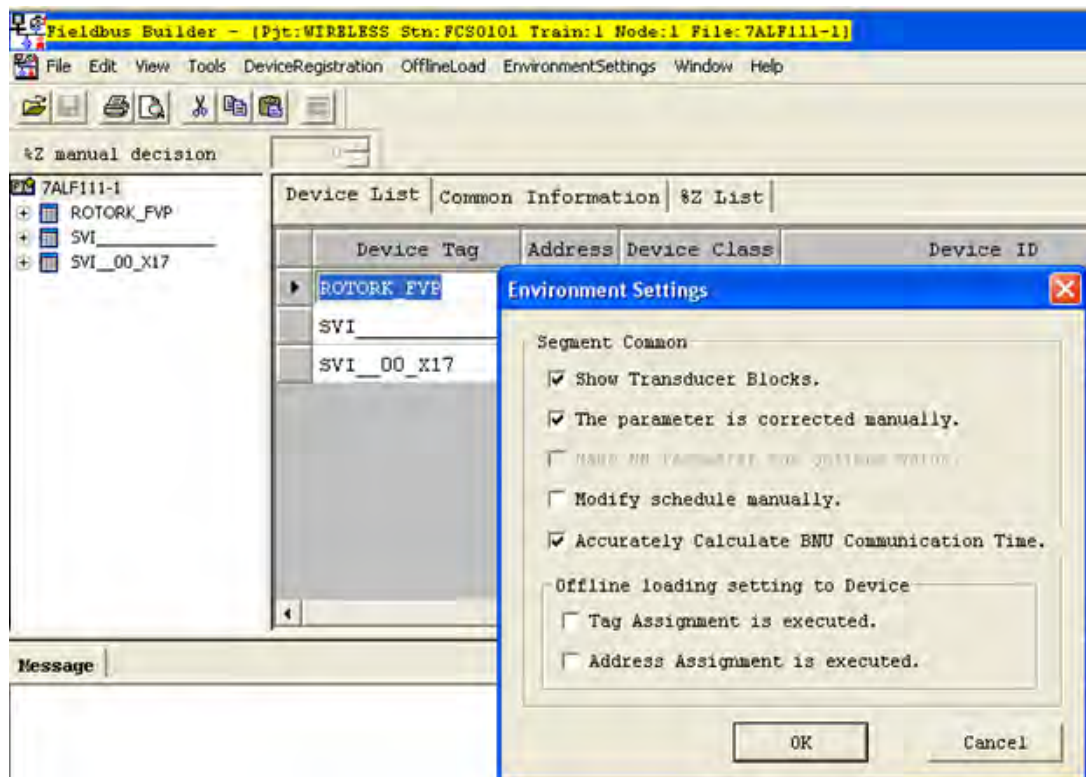

Figure 73 Environment Settings
- Open the *Environment* settings and verify that *Make NM Parameter the optimum value* checkbox is not selected (Figure 73).